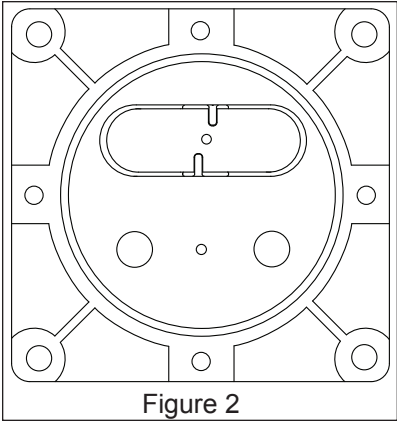

Figure 2
STEP 6. Install the new O-ring, seating it firmly into the groove with your finger or blunt object (See Figure 2).